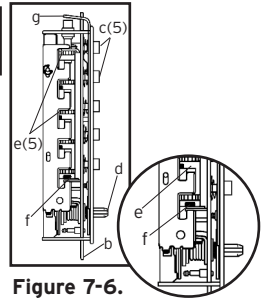

Figure 7-6.
- 10) Look at the 5 code gears (e). If any code gear pockets (f) are already at the shear line (open position), ignore them. They are not used in the combination **(See Figure 7-6)**.
- 11) Find the code gear pocket/s (e) that is farthest away from the shear line (open position). Depress that key-stem/s (c) and release **(See Figure 7-6)**. If any digits in the combination were depressed together (at the same time), then they must also be depressed together to reset the combination.
- 12) Find the code gear pocket/s (e) that is the next farthest away from the shear line (open position). Depress that keystems (c) and release **(See Figure 7-6)**.
- 15) Depress the lockout slide (g) at the top of the chamber and release. (looks like one end of a spark plug) **(See Figure 7-6)**.